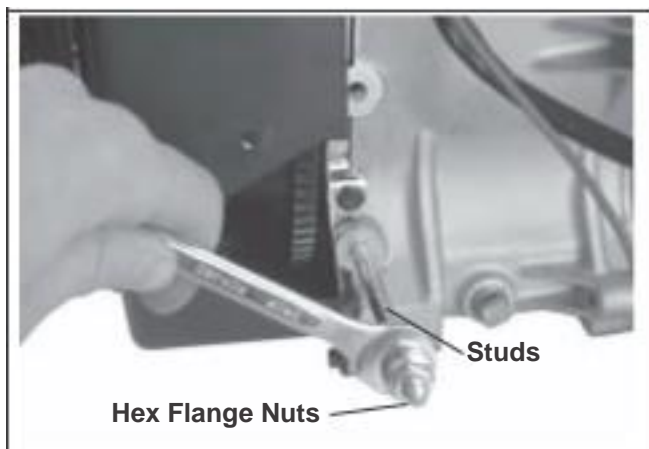

Figure 9-18. Removing Mounting Studs.
- d. If removal of the mounting studs is required, use the two hex flange nuts from the mounting studs, tightened flange to flange, to remove. See Figure 9-18.